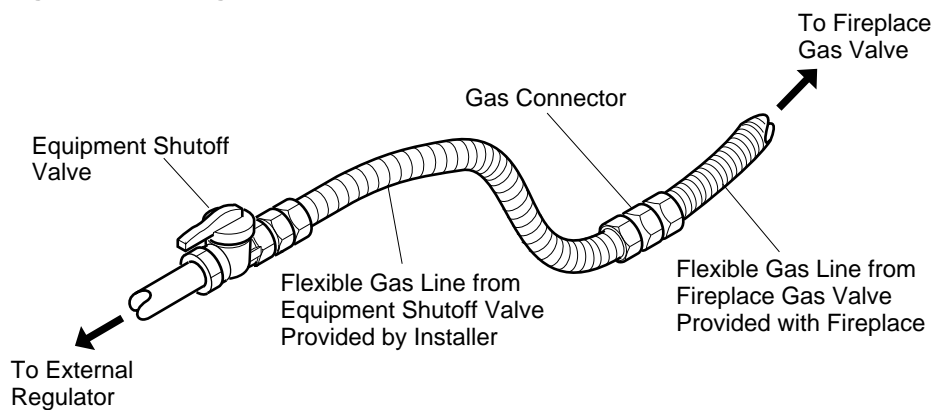

Figure 22 - Attaching Flexible Gas Lines Together
2. Apply pipe joint sealant lightly to male threads of gas connector attached to flexible gas line (see Figure 22). Connect flexible gas line to flexible gas line attached to gas valve of fireplace (see Figure 22).
4. Check all joints from equipment shutoff valve to thermostat gas valve (see Figure 22, page 13). Apply mixture of liquid soap and water to gas joints. Bubbles forming show a leak.